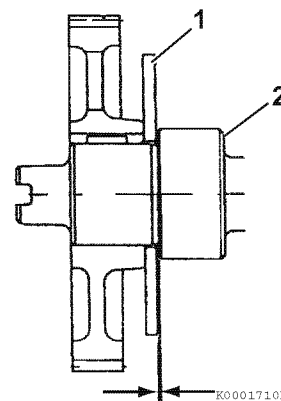

Figure 6-49
- Method B: Use a feeler gauge to measure the clearance between the thrust plate (Figure 6-49, (1)) and front camshaft bearing (Figure 6-49, (2)). Record the measurement. See Thrust Bearing on page 6-9 for the service limit.